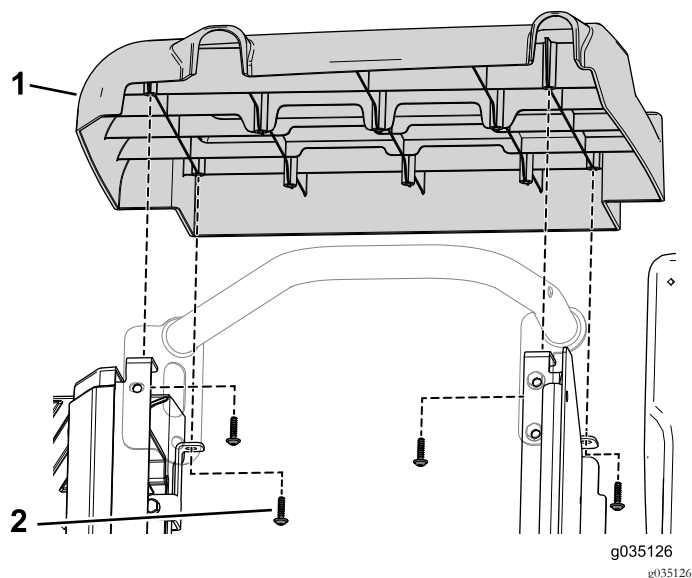

Figure 95
5. Use the 8 self-tapping screws (3/32 x 7/8 inch) to secure the left and right side panels from the kit to the front seat base (Figure 95).